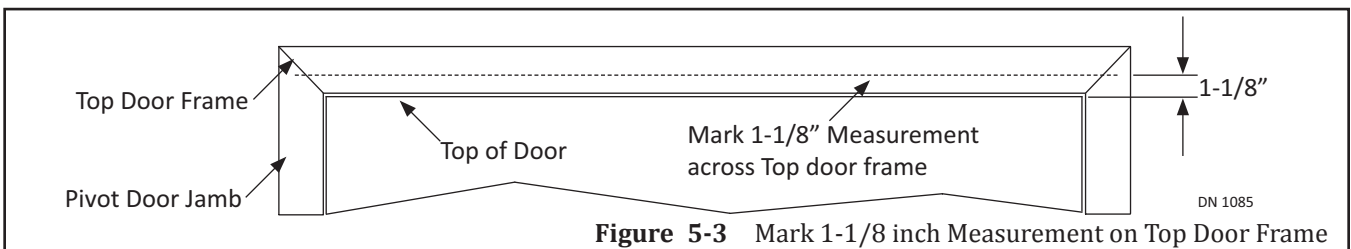

Figure 5-3 Mark 1-1/8 inch Measurement on Top Door Frame
3. Mark a Horizontal Line on the face of the Top door frame, at both ends. Please see Figure 5-3.